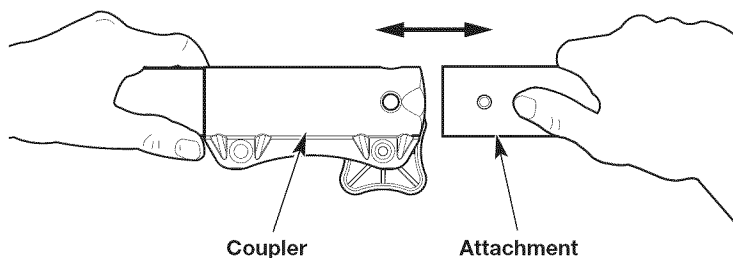
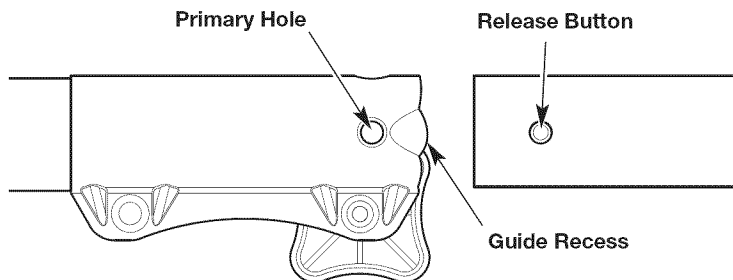

Fig. 5
Fig. 6
4. Align the release button with the guide recess (Fig. 6).
5. Push the attachment straight into the coupler (Fig. 5) until the release button snaps firmly into the primary hole (Fig. 6).
3. Press and hold the release button (Fig. 6).
4. Pull the attachment straight out of the coupler (Fig. 5).
2. Press and hold the release button (Fig. 6).